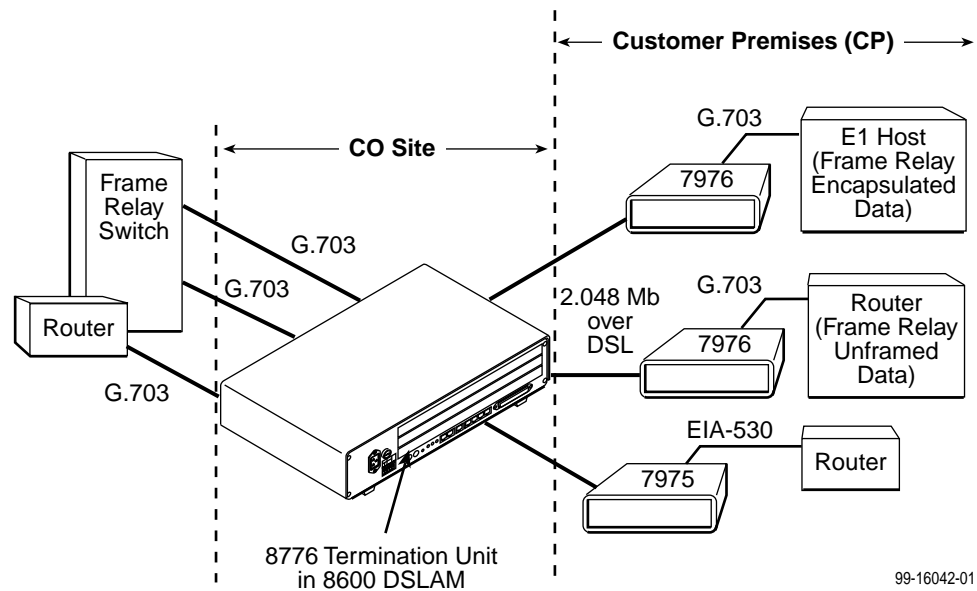

Figure 1-1. Sample CO-to-CP Configuration
Figure 1-1 shows an E1 network application using a Hotwire 8776 Termination Unit for access concentration in a central office (CO). A frame relay switch and a router are connected, through the termination unit, to partner units supporting an E1 host or router, and frame relay encapsulated or unframed data.